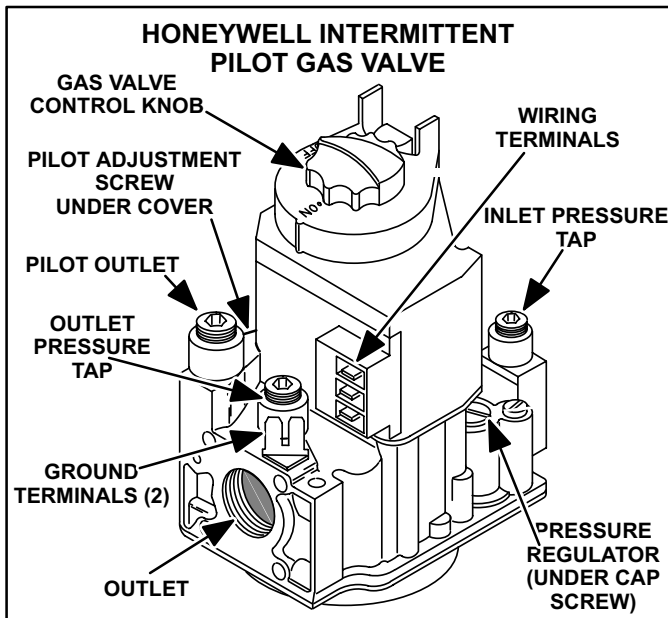

FIGURE 7
8 - Gas Valve (Figure 7)
After line pressure has been checked and adjusted, check manifold pressure. Move pressure gauge to outlet pressure tap located on unit gas valve (GV1). See figure 7 for location of pressure tap on gas valve.
- 1 - Remove pilot adjustment screw cover. See figure 7.